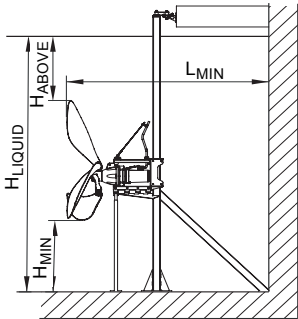

Fig. 8 Positioning sketch for flowmakers
- The distance between the propeller tip and the bottom of the tank, H_{MIN} in fig. 8, should be 50 cm.
- The distance from the propeller tip to the liquid surface, H_{ABOVE} in fig. 8, should be at least 0.75 times the propeller diameter.
- The distance between the propeller tip and the wall behind the flowmaker, L_{MIN} in fig. 8, should be at least twice the propeller diameter.